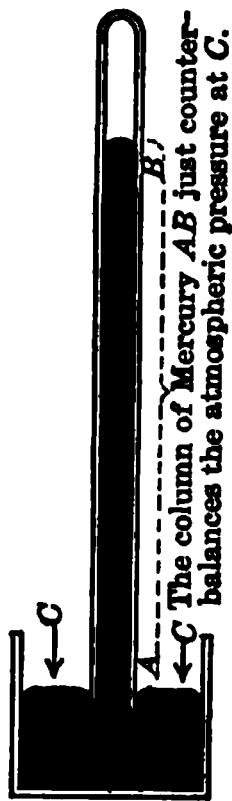

FIG. 35. — Torricelli's apparatus.
46. Torricelli's Experiment. In showing why liquids rise in exhausted tubes, Torricelli also found a method of measuring the atmospheric pressure. His experiment may be easily repeated. Take a glass tube about three feet long, closed at one end, fill it with mercury, place the thumb over the open end, and invert the tube in a bowl of mercury. See Fig. 35. Upon removing the thumb, the mercury in the tube, *ab*, stands at a considerable height above the level of the mercury in the bowl. The pressure of the air upon the surface of the mercury in the bowl is just counterbalanced by the weight of the mercury column, *ab*, which at sea-level is about 30 in. long.